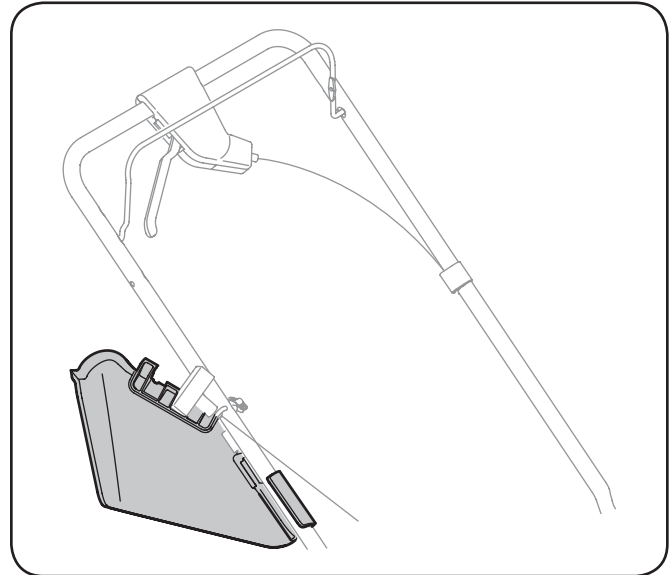

Figure 7-6
- Secure side discharge chute (if equipped with clip) to handle as shown in Fig. 7-6.